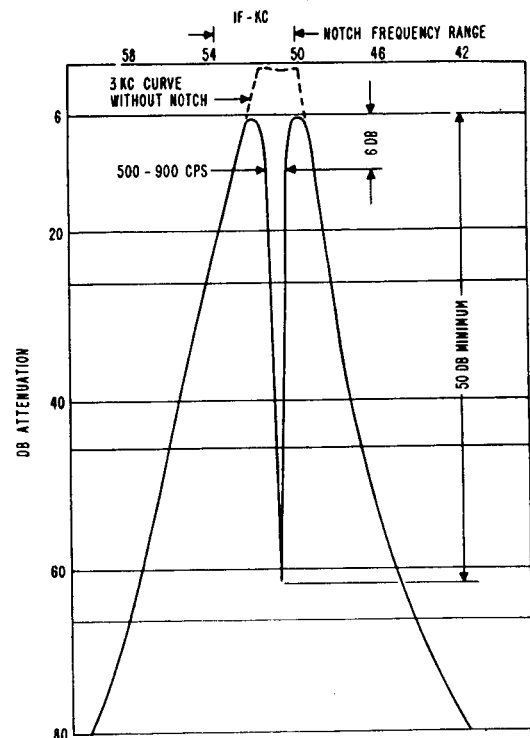

Fig. 9. IF Selectivity Curve with Notch
The manner in which the notch filter will affect the i-f selectivity of the receiver is illustrated on page seven of your instruction book. As shown in Fig. 9 the filter will suppress an extremely narrow band of frequencies within the i-f band pass range of the receiver. The effectiveness of this notch is many times greater than the notch of a quartz crystal filter at 400 kc to 2 mc. The **NOTCH FREQUENCY** control will move the band of suppressed frequencies represented by the notch in the selectivity curve, to any point within the i-f passband. The **NOTCH DEPTH** control will vary the depth of the notch in the selectivity curve to control the degree of rejection of the interfering signal.
**NOTCH FREQUENCY CONTROL** — This control tunes the notch in the i-f pass band and may be set anywhere in the range of from 50 kc to 54 kc. The approximate frequency is calibrated on the knob skirt. While tuning this control for maximum suppression of the interfering heterodyne with minimum distortion to the desired signal, try to visualize the notch moving across the selectivity curve, Fig. 9. It is then readily apparent that improper tuning may notch out the desired signal instead of the heterodyne. It may be necessary to move the notch across the desired signal in order to reach the heterodyne that you desire to suppress. The important consideration is to tune the NOTCH FREQUENCY control for maximum heterodyne suppression with minimum distortion to the desired signal.